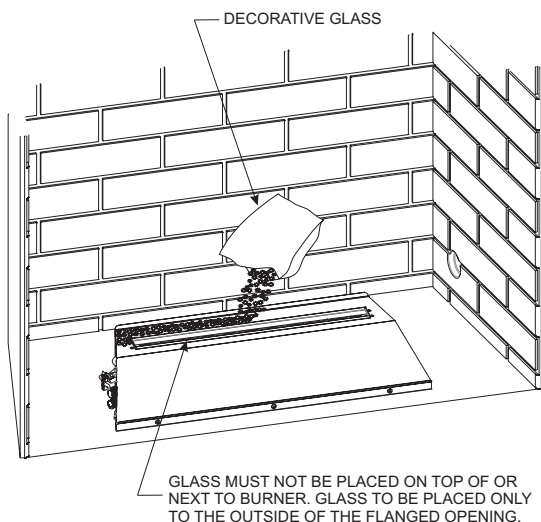
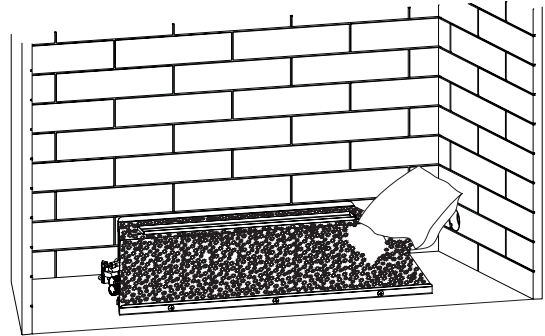

Figure 30
Figure 31
3. To install the Decorative Glass, cut off a corner of the plastic bag and proceed to apply the glass to the rear shelf on the Loft burner (area behind the burner). Apply only enough glass to the Top Cover to cover the black metal surfaces. Do not allow the glass to fall around the burner tube. **See Figure 30.** Apply the remaining decorative glass to the front sloped surface of the Top Cover. Start by placing the glass along the front edge of the top cover, then gradually place the glass up the sloped top until completely covered. Do not allow the glass to fall around the burner tube. **See Figure 31.**